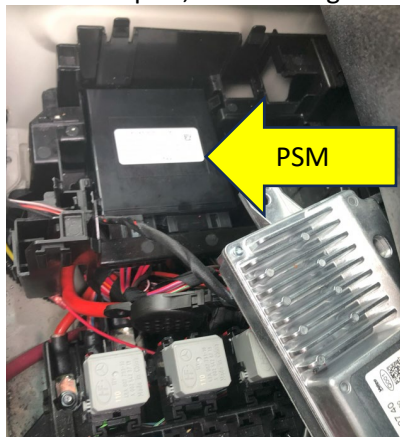
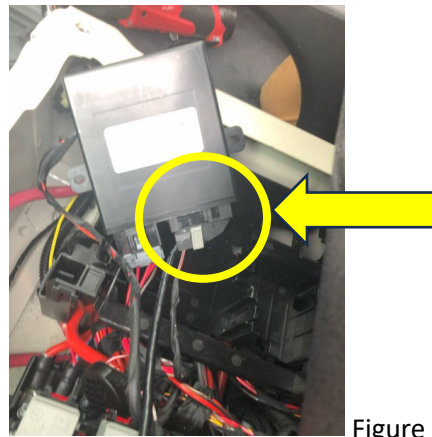
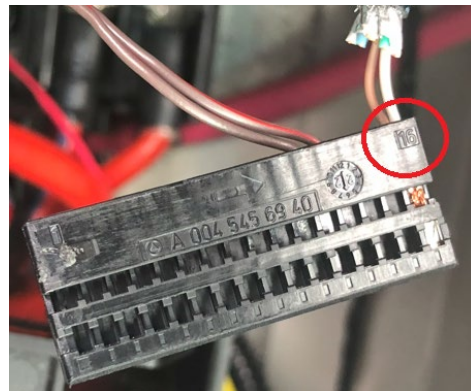
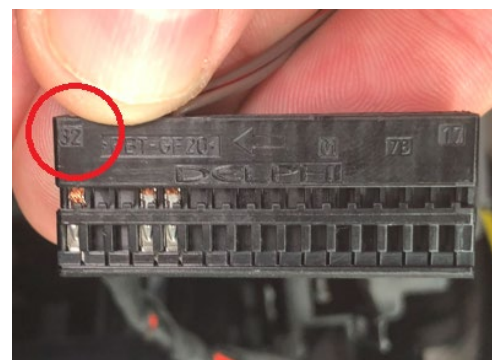

Figure 3A
Figure 3B
Figure 4B, Pin #16
Figure 4C, Pin #32
- Remove the PSM shown in Figure 3A, which is also secured with snap-in clips and remove the PSM to access the connector pins, shown in figure 3B.
- Disconnect the wiring harness, shown in figure 3B & 4A from the PSM. Insert wires from the communication cable, part 5177529 as shown. Figure 4B, Pin 16, connect to brown CAN wire from Wakespeed or RJ45 Pin 1. Figure 4C, Pin 32, connect to white with brown stripe CAN wire from Wakespeed or RJ45 Pin 2, **NOTE: The cable provided with the parts kit will be loomed.**